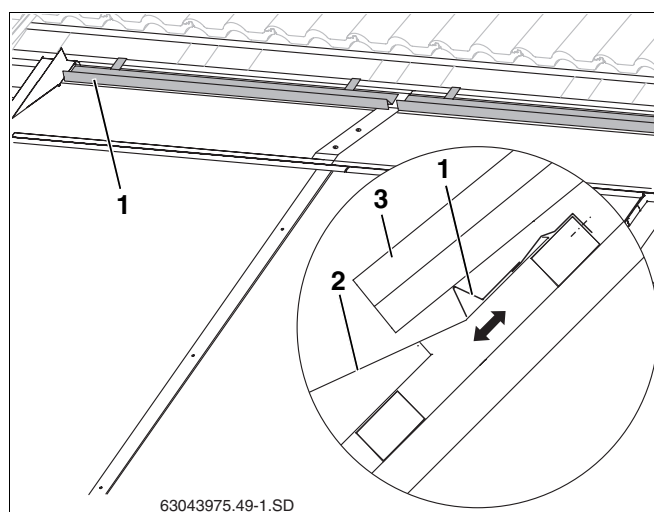

Fig. 59 Laying and securing the pan tile overlay
- it covers the facing panel (Fig. 59, **Item 2**) as much as possible, but does not come into contact with it, and
- ▶ Place the pan tile overlay (Fig. 59, **Item 1**) according to the calculated position and fasten to the roof batten.
- ▶ Lay the cut pan tiles (Fig. 59, **Item 3**).